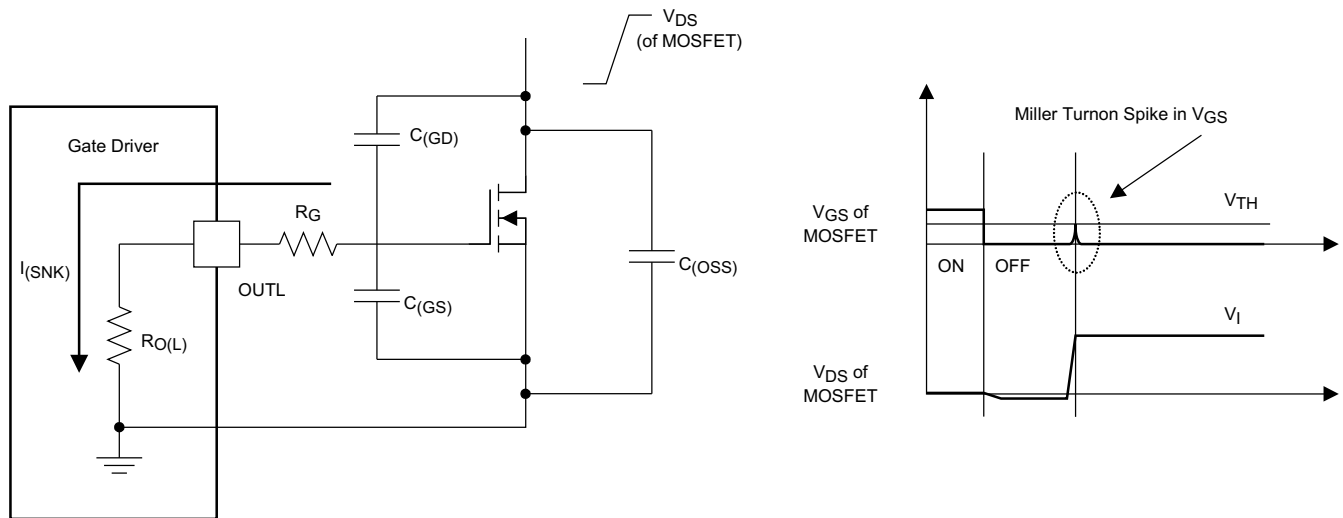

図 6-6. Very-Low Pulldown Impedance in UCC27511A, 4-A and 8-A Asymmetrical Drive (Output Stage Mitigates Miller Turnon Effect)
An example of a situation where the Miller turnon effect is a concern is synchronous rectification (SR). In an SR application, the dV/dt occurs on the MOSFET drain when the MOSFET is already held in off state by the gate driver. The current discharging the $C_{(GD)}$ Miller capacitance during this dV/dt is shunted by the pulldown stage of the driver. If the pulldown impedance is not low enough then a voltage spike can result in the V_{GS} of the MOSFET, which can result in spurious turnon. This phenomenon is shown in Figure 6-6. The UCC27511A device offers a best-in-class, 0.375- Ω (typ) pulldown impedance boosting immunity against Miller turnon.